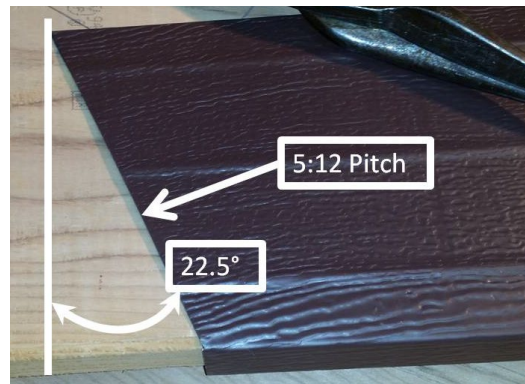

Figure 11-28. Gable Peak Front Side Fascia.
16. Measure from the end of the lower fascia piece to the peak and add 1½". Measure this distance from the appropriate factory edge and mark the top edge. Align the speed square 90° corner with this mark to mark and cut the necessary angle. See Figure 11-28 for the right-hand peak end cut.